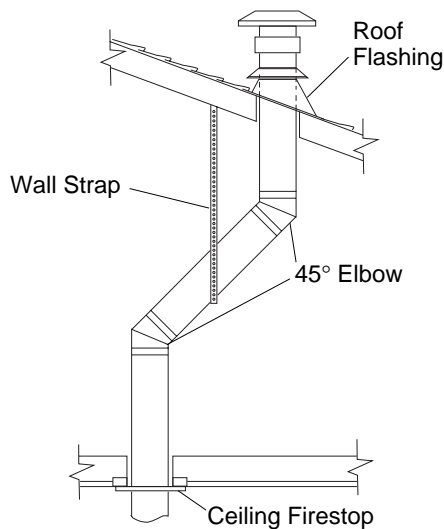

Figure 21 - Offset with Wall Strap and 45° Elbows
1. Determine the route your vertical venting will take. If ceiling joists, roof rafters, or other framing will obstruct the venting system, consider an offset (see Figure 21) to avoid cutting load bearing members. **Note:** Pay special attention to these installation instructions for required clearances (air space) to combustibles when passing through ceilings, walls, roofs, enclosures, attic rafters, etc. Do not pack air spaces with insulation. Also note maximum vertical rise of the venting system and any maximum horizontal offset limitations. Offsets must fall within the parameters shown in Figure 8 on page 6.
Note: If an offset is needed to avoid obstructions, you must support the vent pipe every 3 feet. Use wall straps for this purpose (see Figure 21). Whenever possible, use 45° elbows instead of 90° elbows. The 45° elbow offers less restriction to the flow of the flue gases and intake air.
5. Place the flashing over the pipe section(s) extending through the roof. Secure the base of the flashing to the roof and framing with roofing nails. Be sure roofing material overlaps the top edge of the flashing as shown in Figure 21. There must be a 1" clearance from the vent pipe to combustible materials.